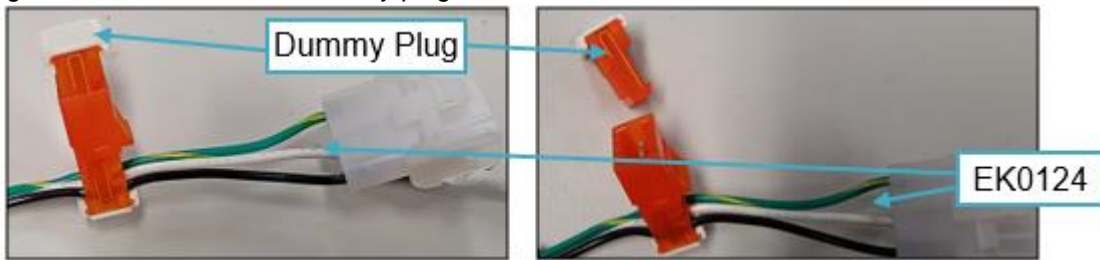

Fig 4.3 – Dummy plugs in EK0124 cable
2. Cable EK0124 has three connectors at one end and a single connector at the other end. EK0124 is supplied with a “dummy plug” for safety in some installations (see figure 4.3). Unplug and discard the female dummy plug from the three-connector end of EK0124.